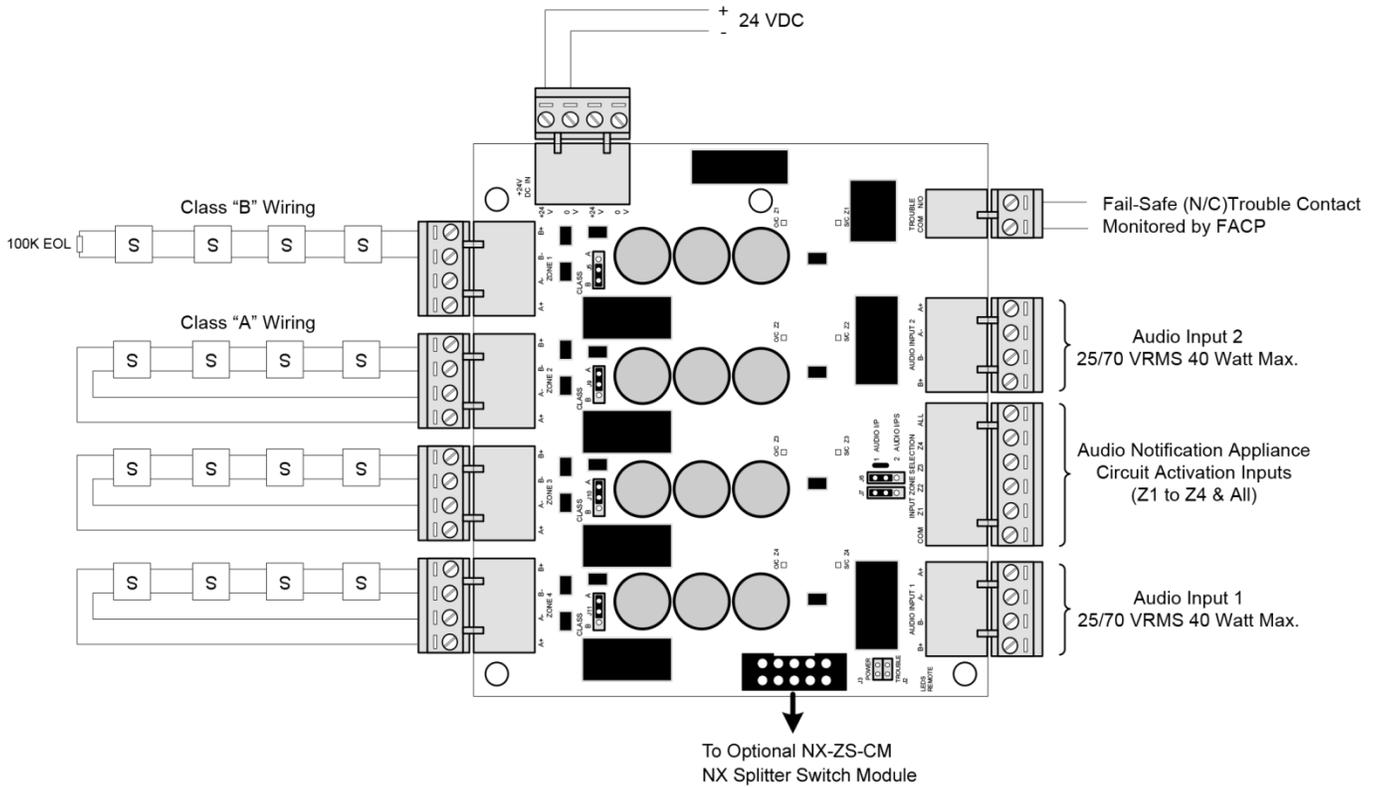

Figure 35 – Optional NX-ZS Audio Zone Splitter Module
Wire 24 VDC (from NX-AMP-80 power output terminals) to the power input terminals of the NX-ZS audio zone splitter module. Wire one or both NX-AMP-80 amplifiers (audio notification appliance circuits) to the Audio Input 1 and Audio Input 2 terminals of the NX-ZS module and set jumpers J6 and J7 to their appropriate position [1 audio input or 2] (see figure 35).
**Note:** The NX-ZS audio zone splitter module reports status open circuit, short circuit and grounds via the associated NX-AMP-80 amplifier (audio notification appliance circuit). In addition, a fail-safe trouble relay contact available which opens on any split audio notification appliance circuit trouble condition or on loss of 24 VDC input power, this trouble relay contact can be monitored for individual NX-ZS trouble indication (see figure 35).